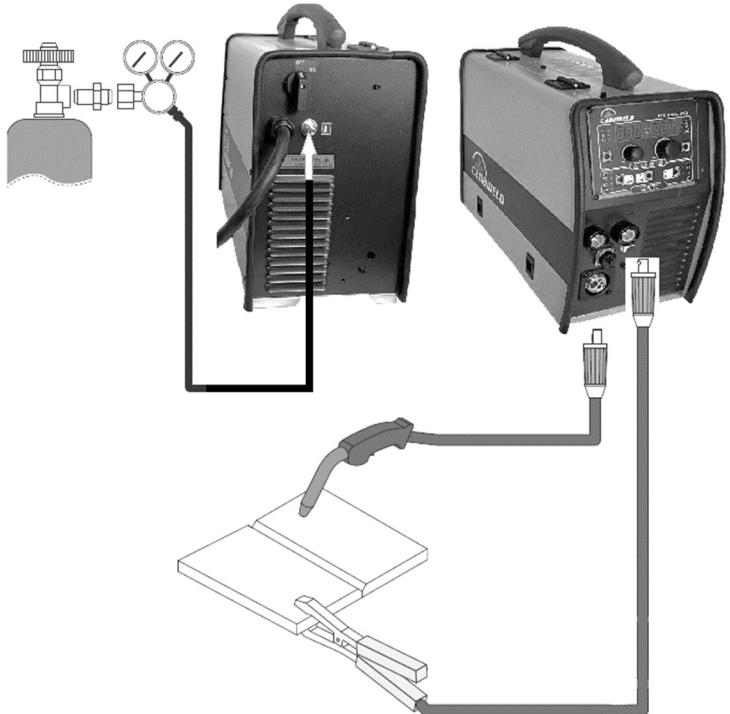

Fig. C1
1. **Connecting the cables (Fig. C1-C2)**